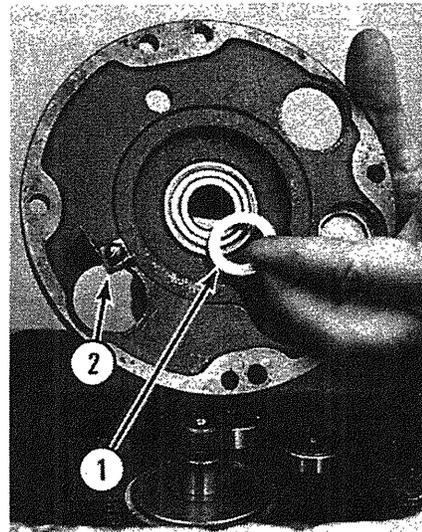

Fig. 3-6
- F. Remove bearing carrier and check for planetary shaft shims stuck to the carrier (1, Fig. 3-6). Remove and save these shims. These must be put back during reassembly.